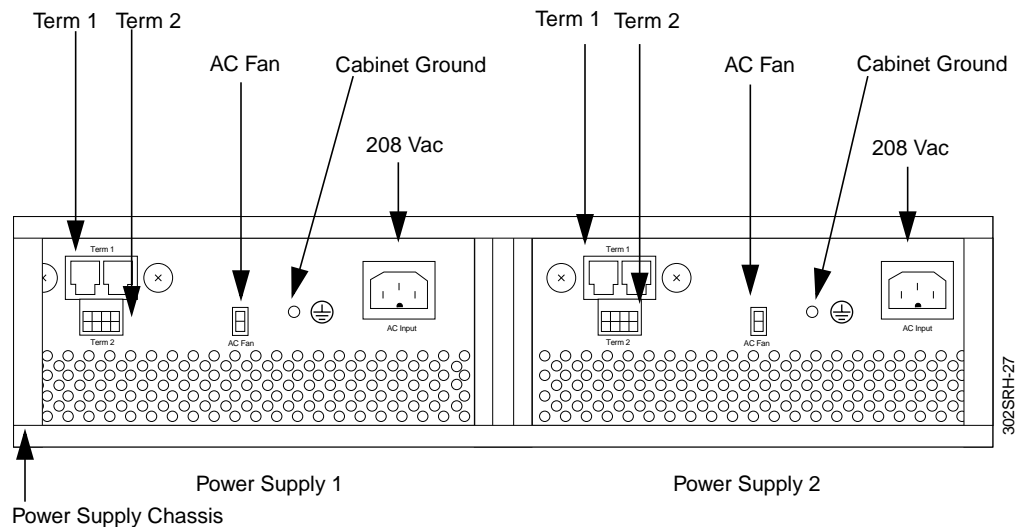

Figure 6-13: Power Supply—Rear View
2. From the rear of the cabinet, disconnect the AC line cord from the AC input connector (see Figure 6-13).
5. From the rear of the cabinet, connect the AC fan cable to the AC fan connector (see Figure 6-13).